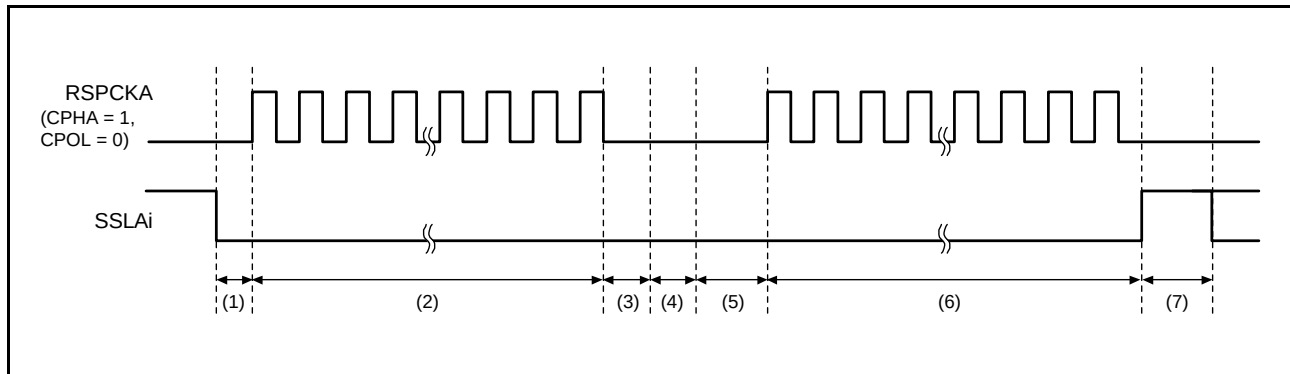

Figure 38.34 Example of Burst Transfer Operation Using SSLKP Bit
Figure 38.34 shows an example of an SSLAi signal operation for the case where a burst transfer is implemented using SPCMD0 and SPCMD1 register settings. The text below explains the RSPI operations (1) to (7) as shown in Figure 38.34. It should be noted that the polarity of the SSLAi output signal depends on the SSLP register settings.
- (1) Based on SPCMD0, the RSPI asserts the SSLAi signal and inserts RSPCK delays.
- (2) The RSPI executes serial transfers according to SPCMD0.
- (3) The RSPI inserts SSL negation delays.
- (4) Since the SPCMD0.SSLKP bit is 1, the RSPI keeps the SSLAi signal value on SPCMD0. This period is sustained, at the shortest, for a period equal to the next-access delay of SPCMD0. If the shift register is empty after the passage of a minimum period, this period is sustained until the transmit data is stored in the shift register for the next transfer.
- (5) Based on SPCMD1, the RSPI asserts the SSLAi signal and inserts RSPCK delays.
- (6) The RSPI executes serial transfers according to SPCMD1.
- (7) Because the SPCMD1.SSLKP bit is 0, the RSPI negates the SSLAi signal. In addition, a next-access delay is inserted according to SPCMD1.
If the SSLAi signal output settings in the SPCMDm register in which 1 is assigned to the SSLKP bit are different from the SSLAi signal output settings in the SPCMDm register to be used in the next transfer, the RSPI switches the SSLAi signal status to SSLAi signal assertion ((5) in Figure 38.34) corresponding to the command for the next transfer. Note that if such an SSLAi signal switching occurs, the slaves that drive the MISOA signal compete, and collision of signal levels may occur.